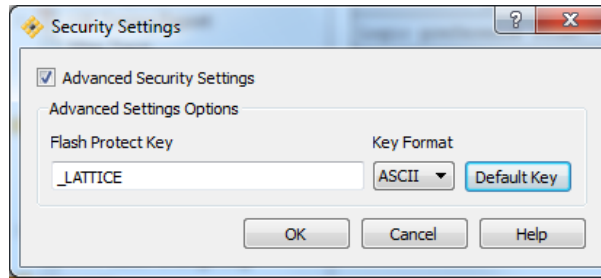

Figure 3.3. Security Settings Dialog Box
3. The Security Settings dialog opens for you to specify the device Flash Protect Key as shown in Figure 3.3. Ensure that the Advanced Security Settings checkbox is marked. A default Flash Protect Key is provided. For enhanced security, change the Flash Protect Key. The Flash Protect Key is a 64-bit binary value. For convenience, the key can